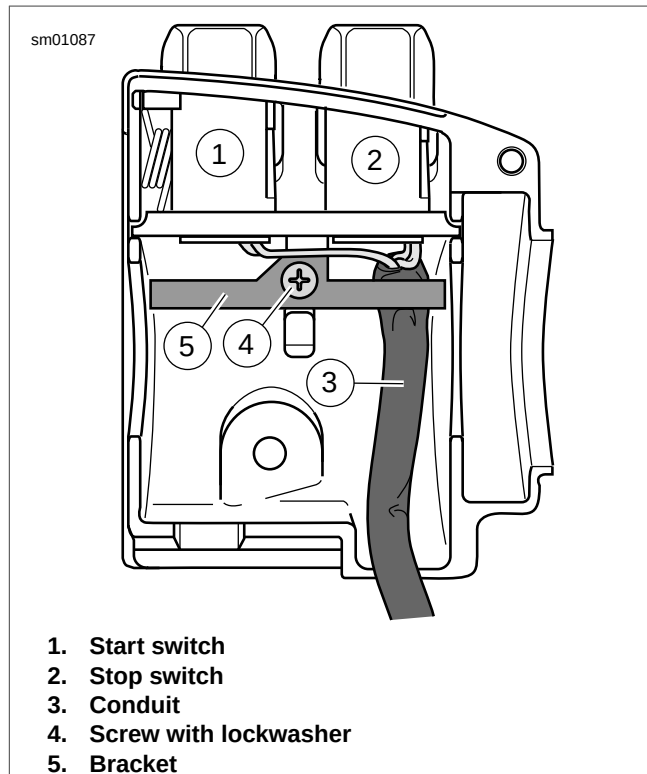
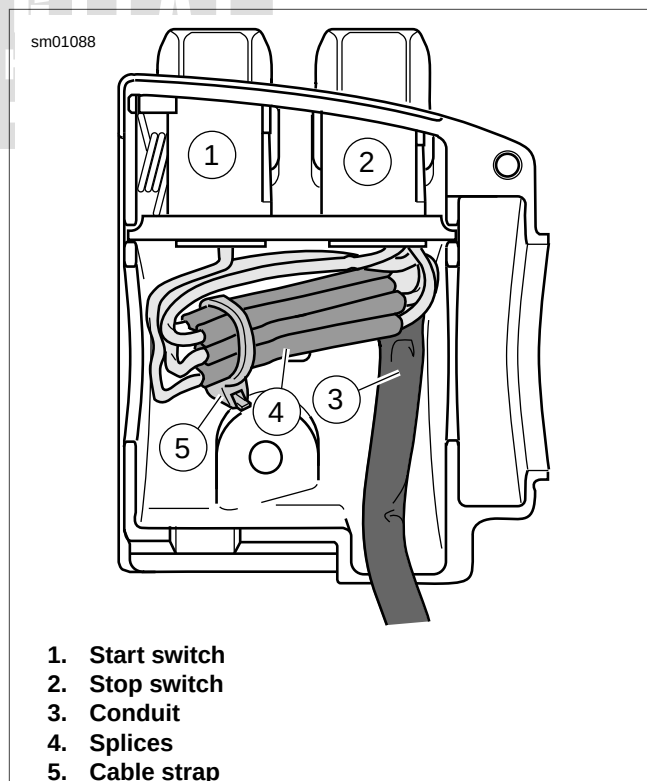

Figure 6-143. Upper Housing Without Splices
Figure 6-144. Upper Housing With Splices
1. See Figure 6-143. From inside the switch housing, remove the screw with lockwasher (4) to release the bracket (5). Remove the bracket and switch assembly from the housing.
2. Move cable conduit (3) from beneath wing of bracket. Cut wires 0.25 in. (6.4 mm) from old switches (1, 2). Discard old switch and bracket assembly.
3. Slide conduit forward over cut ends of switch wires and cut off 0.5 in. (12.7 mm) of conduit (3) material. Push conduit back to access switch wires.
4. See Figure 6-144. Separate **new** engine stop switch (2) and engine start switch (1) wires into two bundles.
6. Loop switch wires so that spliced lengths are positioned as shown in Figure 6-144. Route wires downstream of splices beneath wing on engine stop switch side of bracket as shown in Figure 6-143.
7. See Figure 6-144. Install a **new** 7.0 in. (177.8 mm) cable strap (5) beneath wing on engine start switch side (1) of bracket and capture wire splices (4).
9. See Figure 6-143. Install screw and lockwasher (4) to secure bracket (5) inside housing. Verify that wing on engine stop switch (2) side of bracket captures edge of conduit (3) as shown.